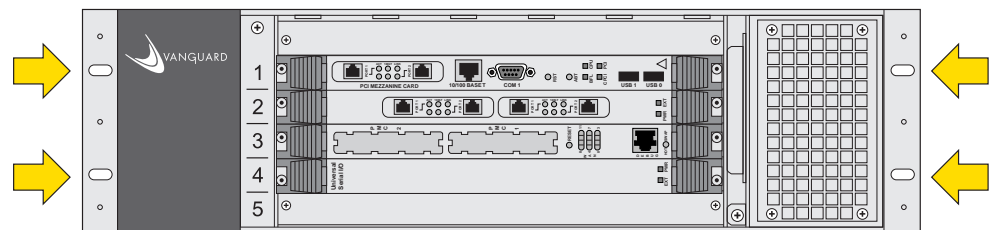
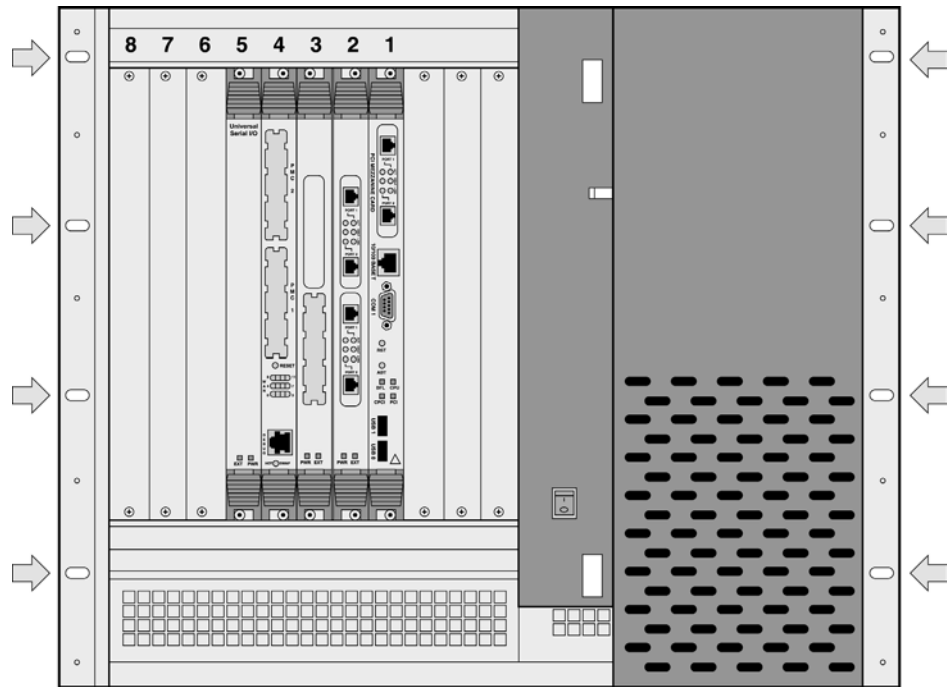
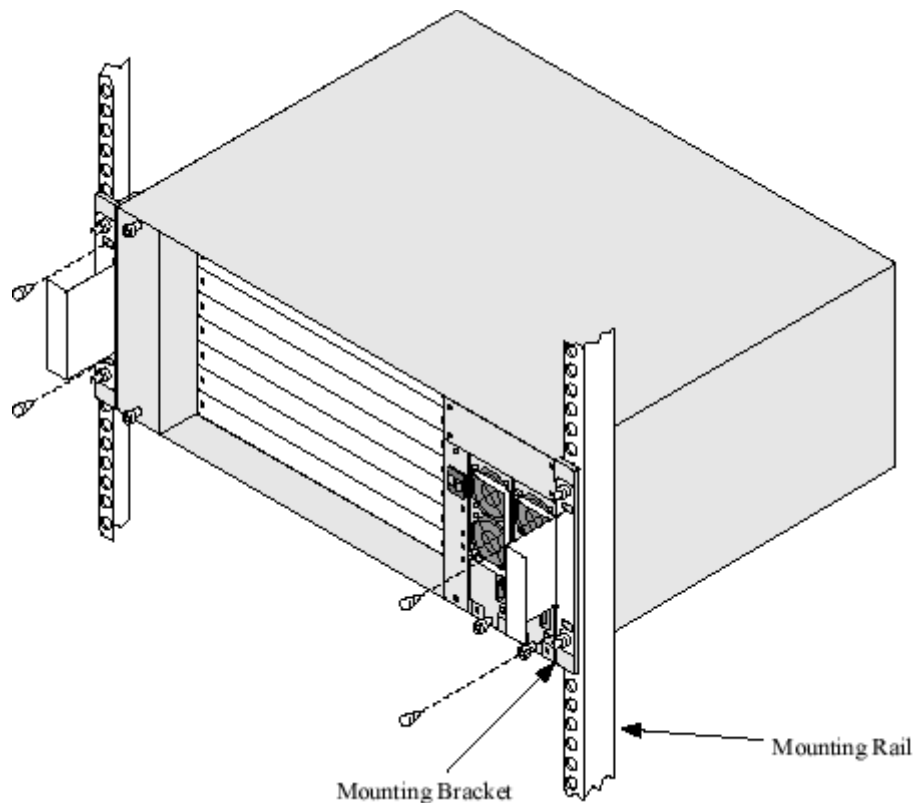

Figure 3-10. Rack Mount Hardware Locations - Vanguard 7310
Figure 3-11. Rack-Mount Locations - Vanguard 7300 Version 1
Figure 3-12. Rack Mount Hardware Locations - Vanguard 7310 and 7330 Version 2
Figure 3-10 shows the mounting hardware locations on the flanges of the Vanguard 7310 Version 1. For the locations on the Vanguard 7330 Version 1, refer to Figure 3-11, For the locations on the Vanguard 7310 and 7330 Version 1, refer to Figure 3-12. Use standard rack-mounting hardware (not supplied) to secure the chassis in the rack.
- Secure the Vanguard 7310 Version 1 with mounting hardware at four locations, two on each side of the front panel (Figure 3-10)
- Secure the Vanguard 7330 Version 1 at eight locations, four on each side of the front panel (Figure 3-11)
- Secure the Vanguard 7310 and 7330 Version 2 with mounting hardware at four locations, two on each side of the front panel (Figure 3-12)